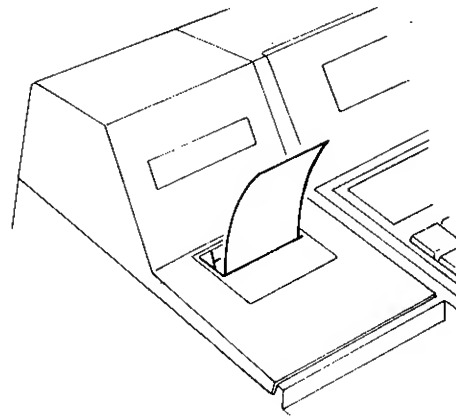

Fig. 5
5. Attach the Receipt Cover with the paper end coming out of the Receipt Outlet located on the Receipt Cover if the Receipt-format print has been selected. (Fig. 5)